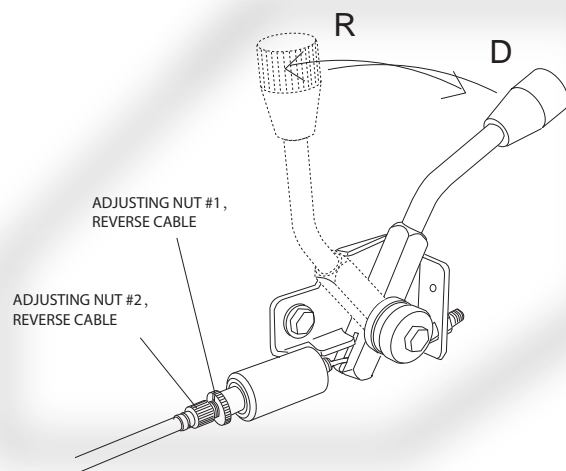

Figure 4
- Push forward the reverse lever to the "D" position so that the unit can move forward, pull back the lever to "R" so that the unit can move backward. (See Fig.4)